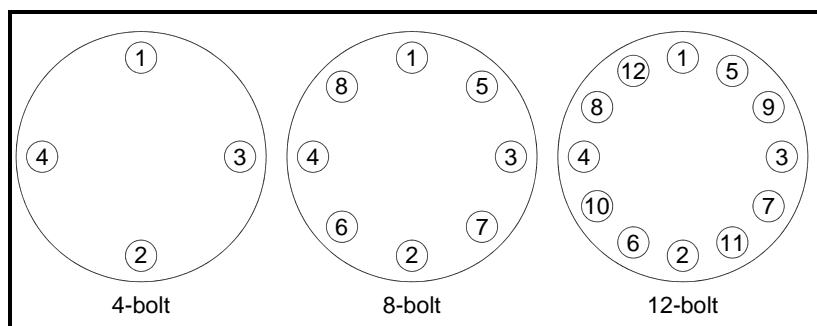

Figure 2-2: Flange Bolt Torquing Sequence
4. Place the remaining studs between the pipe flanges. Tighten the nuts in the sequence shown in Figure 2-2 on page 2-3. Check for leaks after tightening the flange bolts.
3. Install bolts in both process connections. Tighten the nuts in the sequence shown in Figure 2-2 on page 2-3. Check for leaks after tightening the flange bolts.